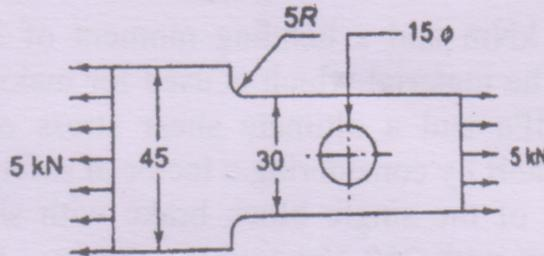

Figure 1: A flat plate subjected to tensile force
(b) A grey cast iron FG 200 flat plate is subjected to a tensile force of 5 kN as shown in the fig. 1. Determine the thickness of the plate for a factor of safety of 2. (10)